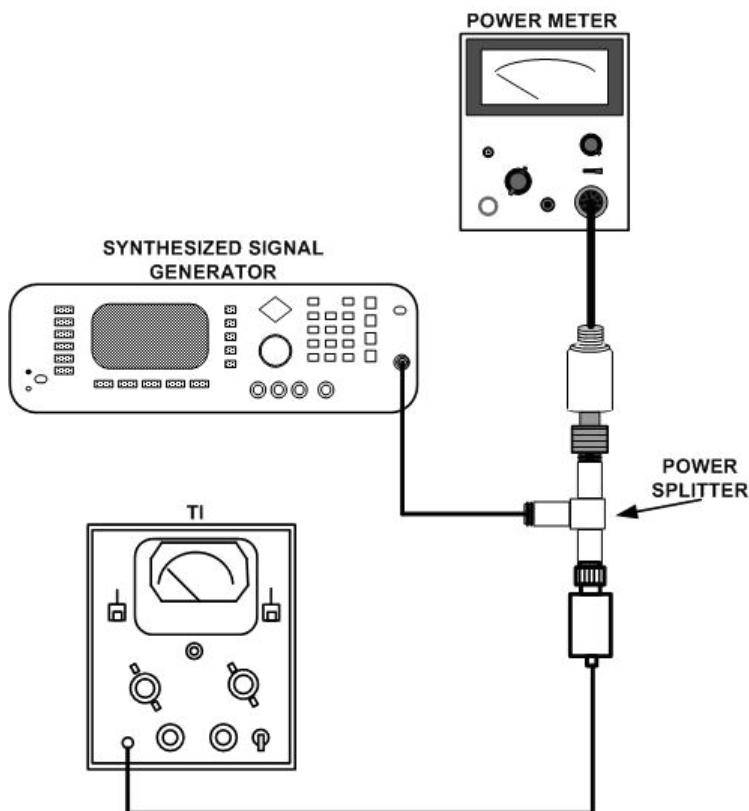

Figure 5. Thermistor mount - equipment setup.
- (1) Set **POWER RANGE** (**RANGE** on some models) switch to **1.0 MW** and zero the TI meter, using **BOLO BIAS CURRENT** (**BIAS CURRENT** on TS-799/U) switch and **ZERO COARSE** and **FINE** controls.
- (2) Connect equipment as shown in figure 5.